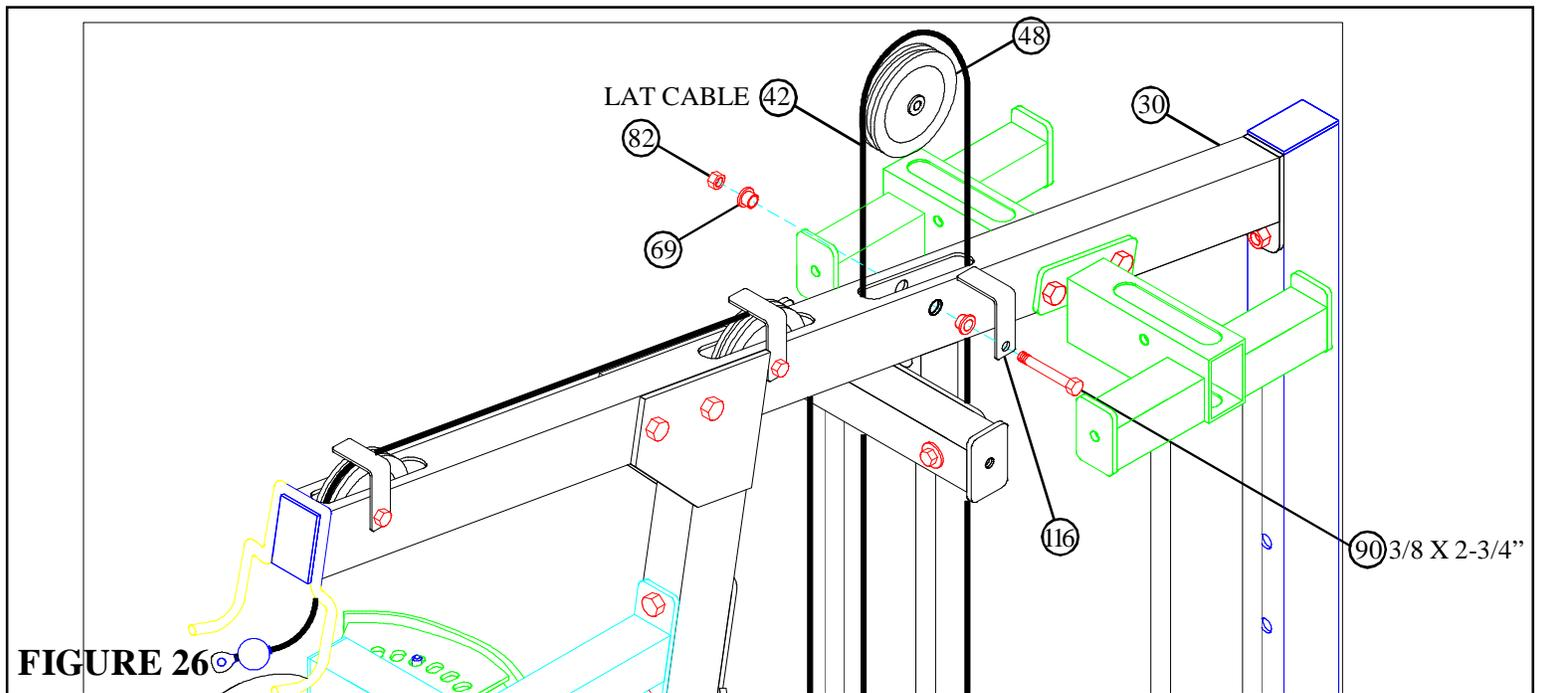

FIGURE 26
- Route the threaded end of the LAT CABLE (42) through the TOP BOOM (30) and down through the PEC GUIDE ROD SUPPORT (22) as shown in FIGURE 26.
- **SECURELY** assemble one 4-1/2" PULLEY (48) into the rear slot of the TOP BOOM (30) using one 3/8 X 2-3/4" BOLT (90), two 3/8" FLANGE SPACERS (69), one 2-7/8" X 2-1/4" CABLE CLIP (116) and one 3/8" LOCK NUT (82). (NOTE: Loop the cable around the pulley prior to inserting it in the the slot.)